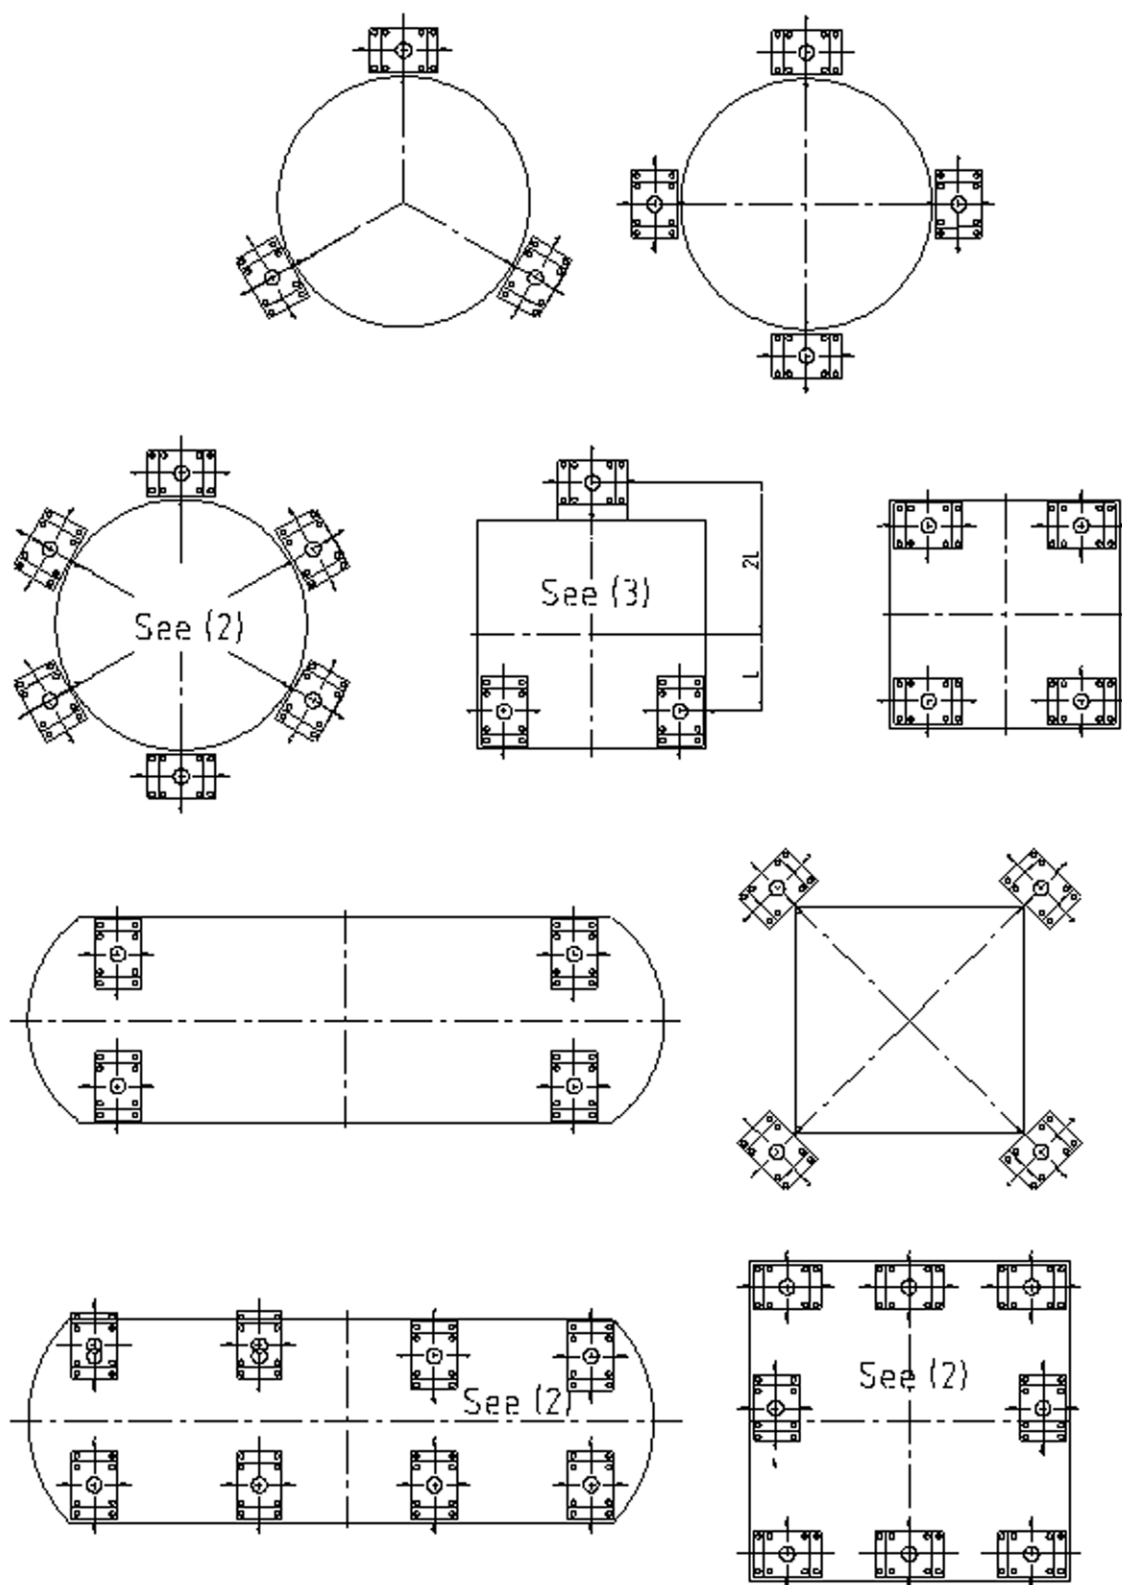
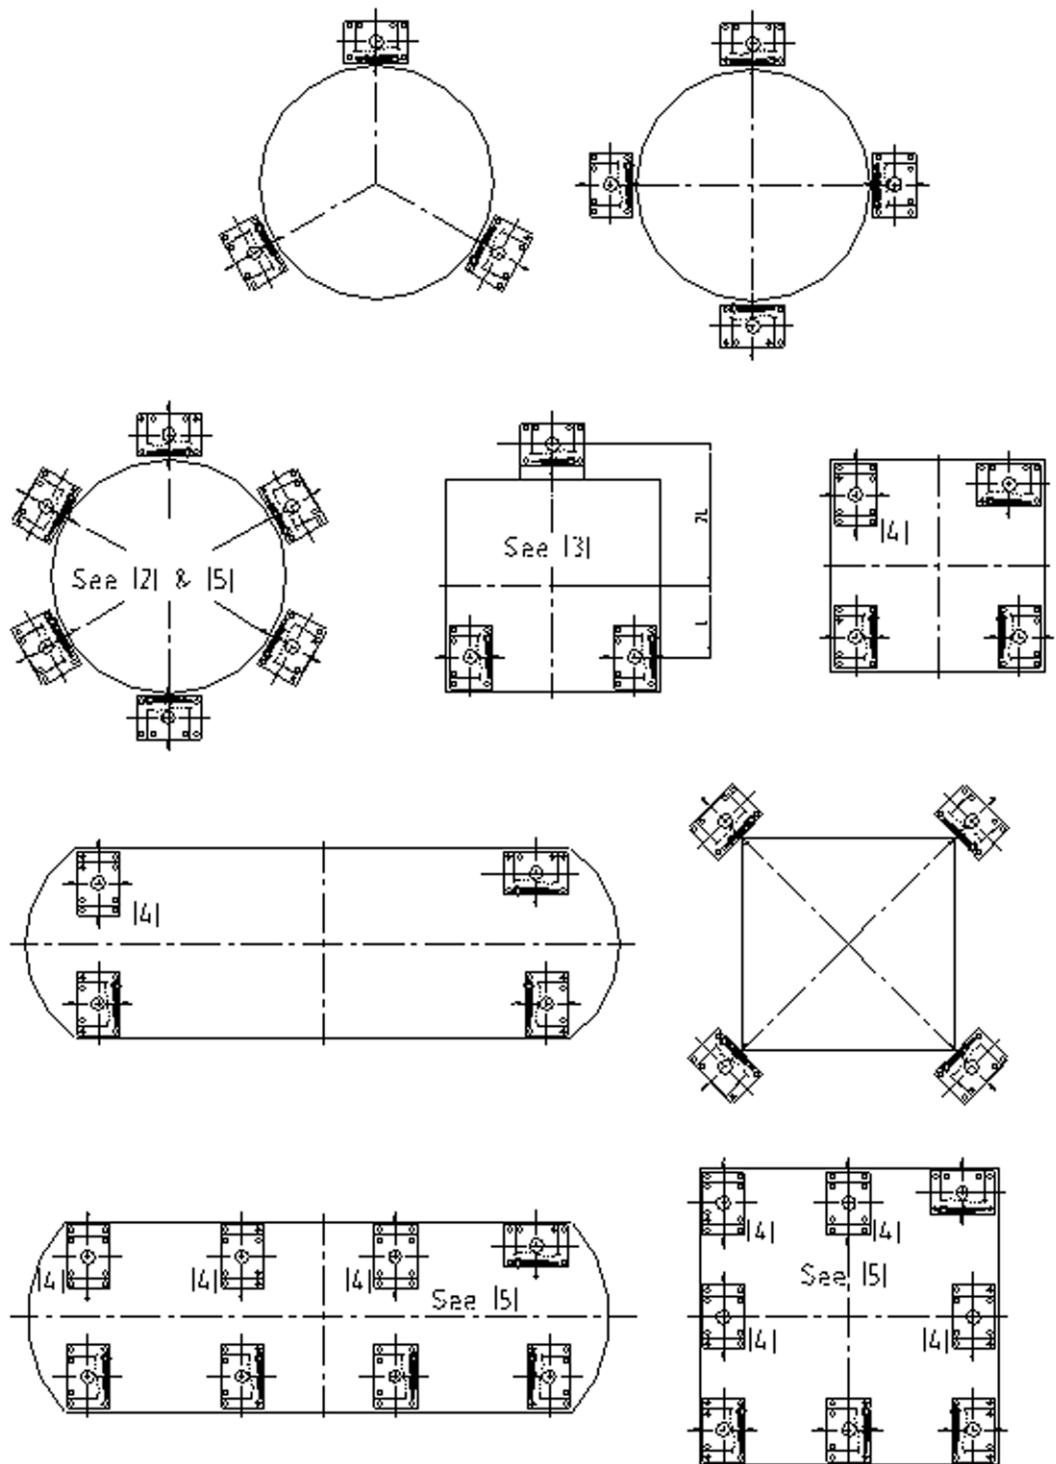

Figure 1-6: Plan View of Mounting Arrangements without Stabilizers
Figure 1-7: Plan View of Mounting Arrangements with Stabilizers
3. Position a weigh module under each of the support points for the tank or scale structure. Each weigh module should support an equal portion of the total load and should be oriented as shown in Figure 1-6 (for weigh modules without stabilizers) or Figure 1-7 (for weigh modules with optional stabilizers). Stabilizers are used to stabilize a tank, for example when a mixer will cause the tank to oscillate. If there is a possibility of needing stabilizers in the future, install the weigh modules as shown in Figure 1-7.
- a. The optional stabilizers (one or two per weigh module) can be fitted to the weigh module before or after the weigh module is installed. If you are using one stabilizer per weigh module, it can be fitted to whichever side of the weigh module is most convenient. Note that the weigh modules must be arranged according to Figure 1-7 to avoid binding the scale.